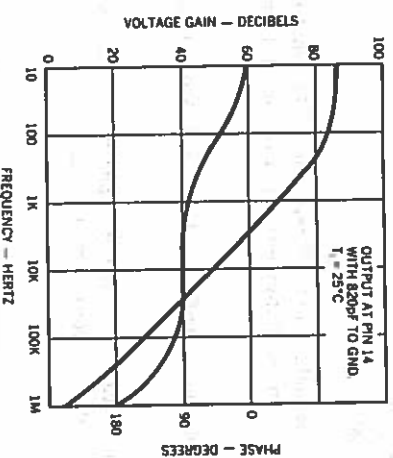

Figure 22. Current Sense Amplifier Gain and Phase Frequency Response
- CS/A - Figure 22 shows the open-loop gain and phase response of the UC1834 CS/A. This is also a transconductance amplifier, having $g_m \approx 1/70\Omega = 14\text{ms}$. The voltage gain is analogous to that of the E/A. The E/A compensation impedance (Z_C or $Z_{R/E/A}$) is also seen by the CS/A output. For purposes of small signal AC analysis, the CS/A will always see this impedance as being returned to V_{IN} (as shown in Figures 16c, d) when the E/A is compensated by either of the methods shown in Table 2.